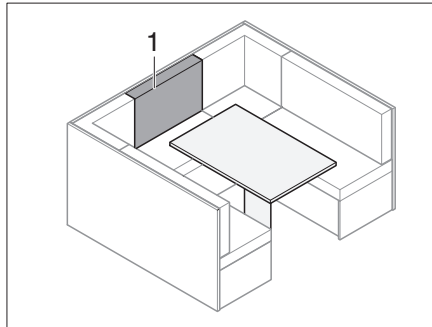

Fig. 188 Prior to conversion
- Lay the back cushion (Fig. 188,1) before the additional cushion on the table.